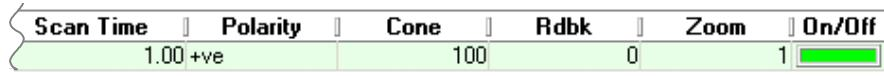

Figure 2-7. Part of the tune window Scan Event Editor
- Using the **Tune Window Scan Event Editor** (Figure 2-7), check the following: